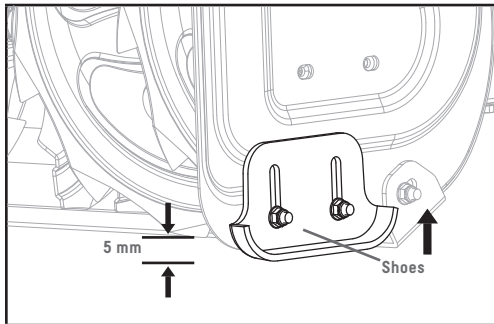

Figure 15A
- On flat ground, e.g. asphalt, the shoes should be adjusted to about 5 mm (the distance from the auger to the ground) (Fig. 15A).